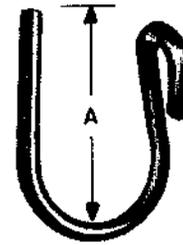

Fig. 24 – B Wire Loop
6.08 The B wire loop is available in four sizes corresponding to those of the standard drive rings (Fig. 24). D masonry fasteners are used to support B wire loops and any size combination of both may be used.